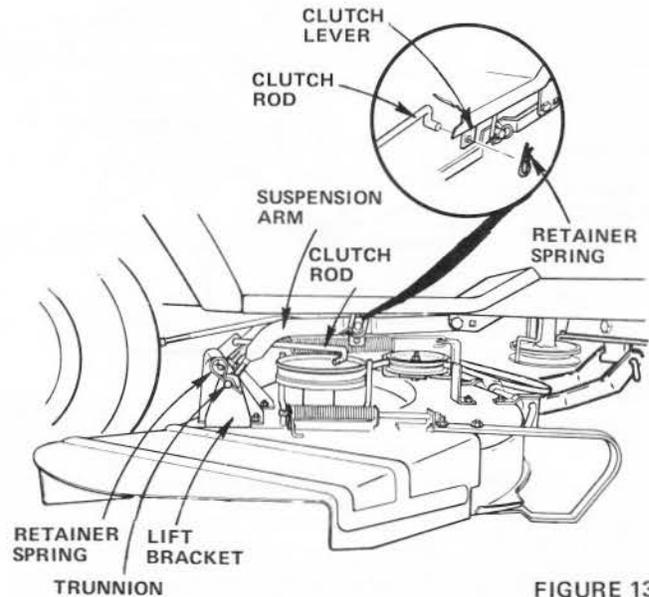

FIGURE 13
3. Install Clutch Rod in Clutch Lever (Fig. 13 - Inset). NOTE: INSTALL RETAINER SPRING FROM THE BOTTOM OF CLUTCH ROD TO AVOID INTERFERENCE WITH MOWER DRIVE BELT.
4. Move Lift Lever (Fig. 11) forward to lower Suspension Arms. Slide Trunnions through Lift Bracket holes and secure with Retainer Springs (Fig. 13).